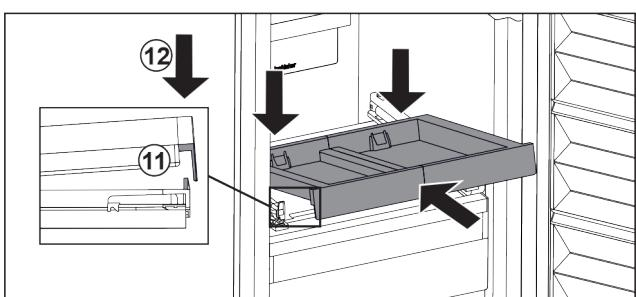

Fig. 100
- ▶ Slide in at an angle. Make sure that the stop is behind the lug on both sides. *Fig. 100 (11)*
- ▶ Lower the pull-out board at the front. *Fig. 100 (12)*